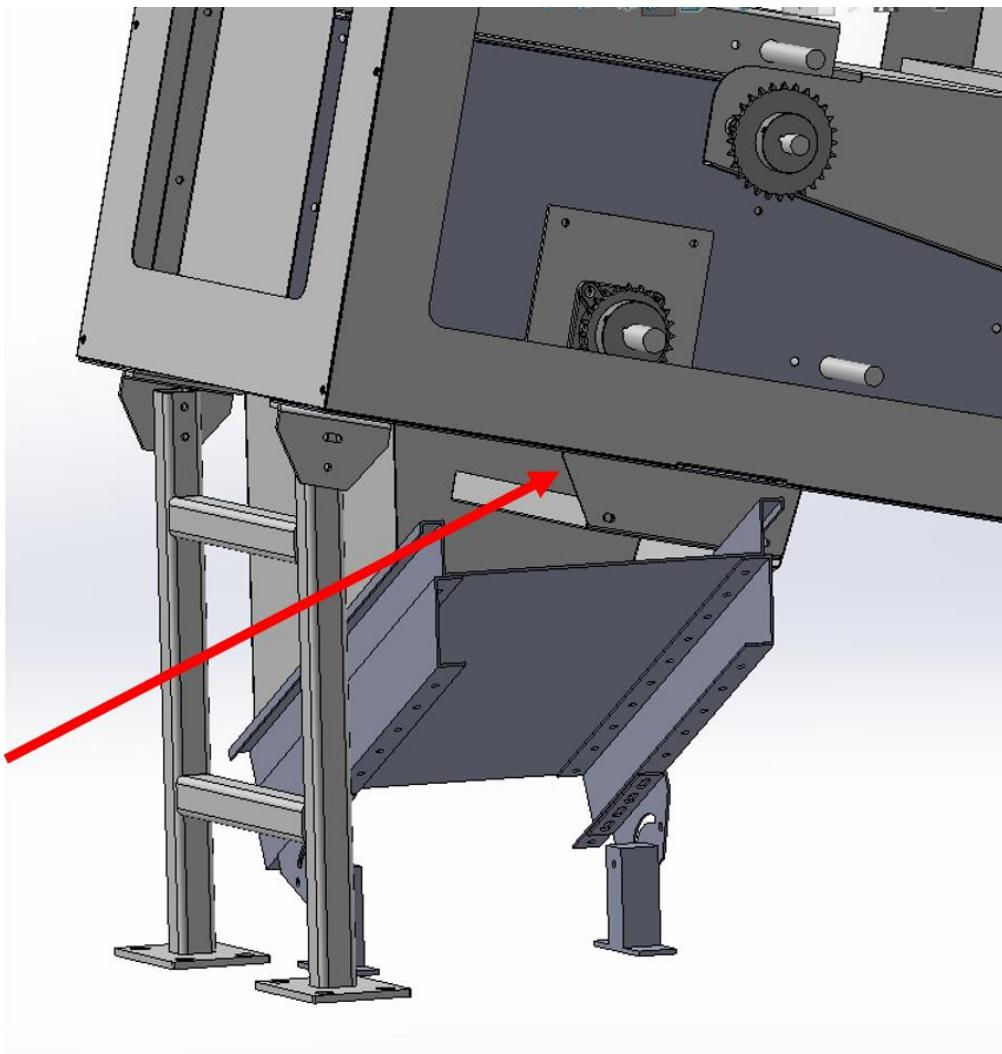

Figure 15 - Tramp Metal Bin
1. Empty the Tramp metal bin once a week (**Figure 15**).